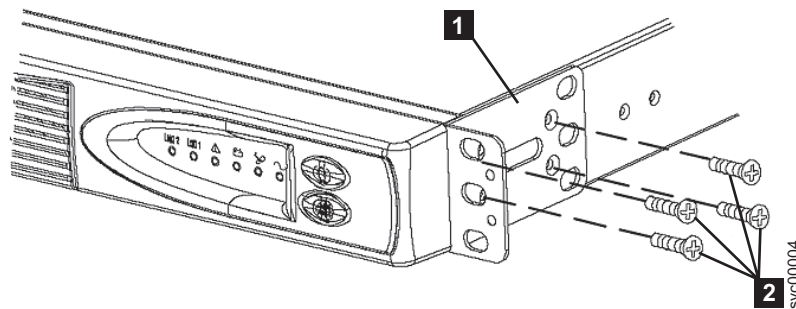

Figure 151. Installing the support rails for a 2145 UPS-1U into the rack
2. Attach the long side of a mounting bracket **1** to each side of the 2145 UPS-1U using four M3 × 6 screws **2** for each bracket. See Figure 151.